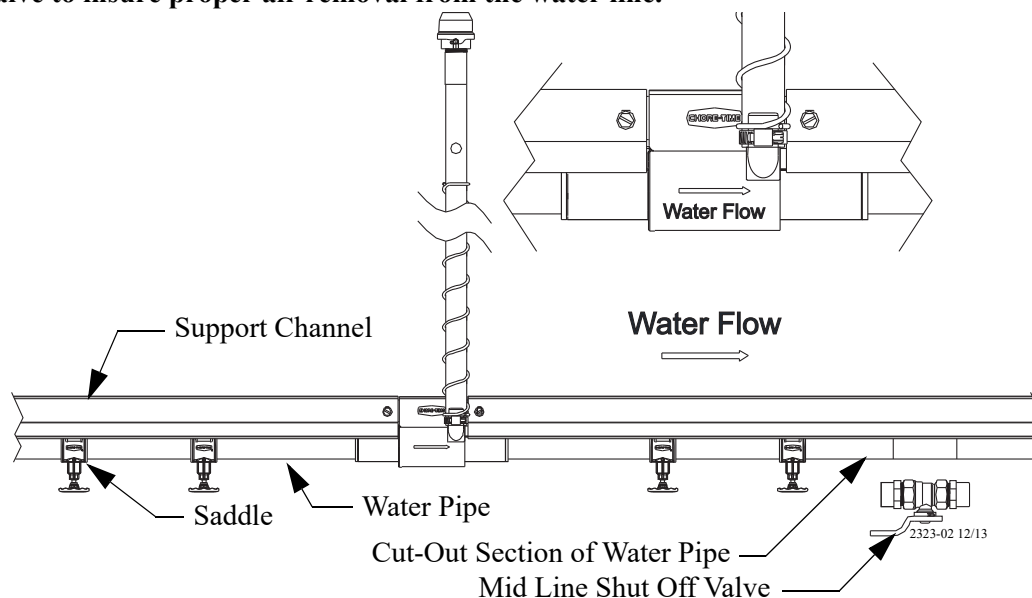

Figure 21. Mid Line Shut-Off Valve Installation
3. Use PVC pipe cutters to cut a section out of the water pipe. See **Figure 21**. The shut-off valve may be used as a template to determine the required size of the cut.